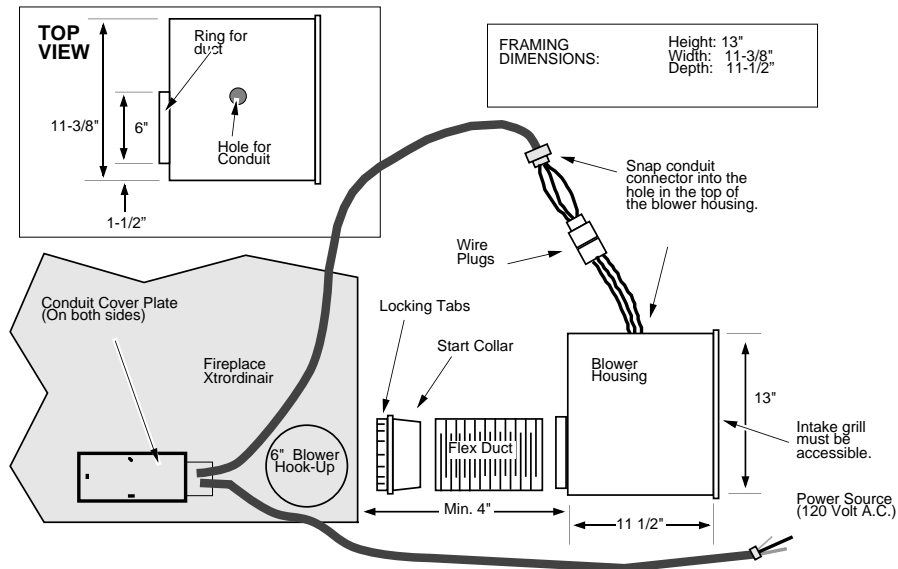

Figure 16
- Connect the blower duct to the right, left, or bottom of the fireplace. Each location is sealed with a cover plate. If using the bottom location, remove the 8-1/2" by 6-1/4" air deflector directly above the cover plate and attach the duct to the 6" hole above the deflector. Insert the starter section into the blower hook-up hole and bend the locking tabs outwards, locking the starter section in place (see Figure 16).
- Connect the electrical supply lead conduit to a 120 Volt, 60 Hz (2 Amp) electrical supply. Use a junction box to protect the electrical connection (see Figure 16).
- Connect the blower conduit to the blower box by attaching the two molex connectors together. Insert the molex connectors into the blower box. Then attach the conduit to the blower box by inserting it into the top until it snaps in place (see Figure 16).